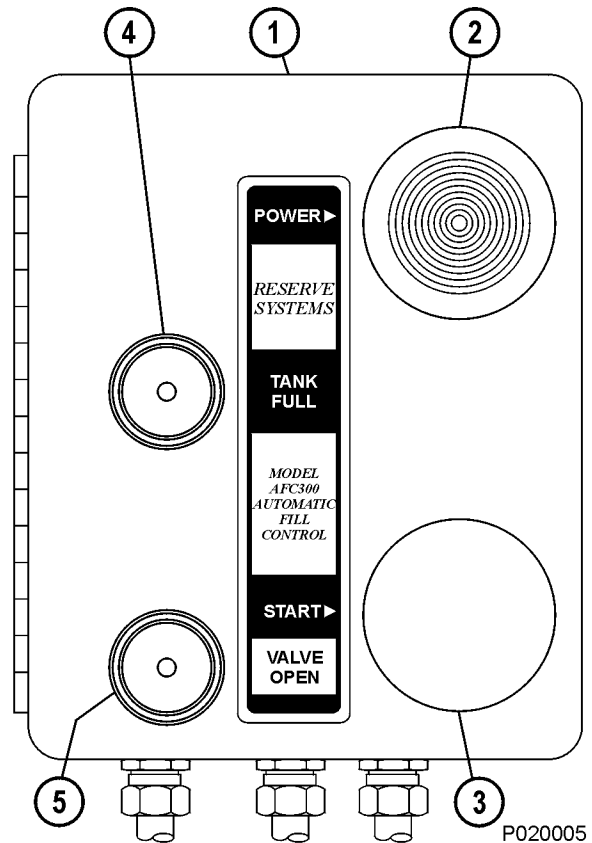

FIGURE 31-3. RESERVE OIL TANK REMOTE FILL
The system switch (2, Figure 31-3) is an illuminated push-pull POWER ON switch that powers the fill system. The start switch (3) is a momentary push button switch that opens the fill valve mounted on the reserve tank to begin the automatic filling of the reserve tank. Supply oil under pressure flows through the fill valve and into the tank.
2. Pull out on system switch (2, Figure 31-3) to turn the fill system ON.
3. Push the start switch (3). The "Valve Open" light (5) should illuminate and the filling process will begin.
4. When tank is full, the "Valve Open" light will turn OFF and the FULL light (4) will illuminate.
6. Press and hold the start switch (3) for a couple of seconds to relieve oil pressure in the line.
8. Push switch (2) in to turn fill system power OFF.